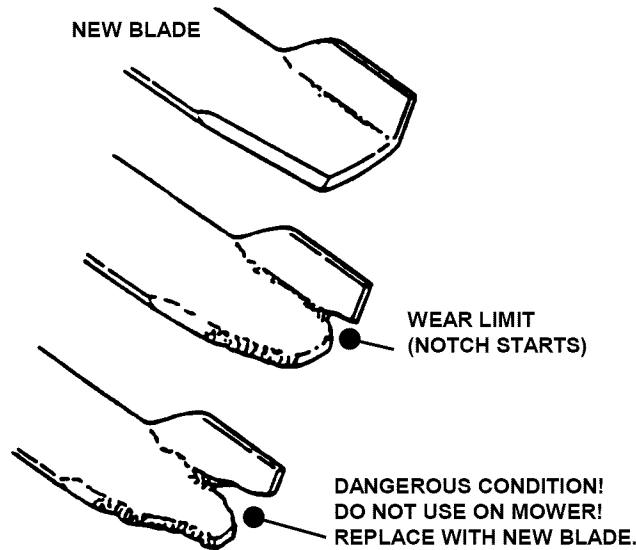

FIGURE 5.5
1. Inspect blade frequently for signs of excessive wear or damage. See Figure 5.5.
See Figure 5.5.